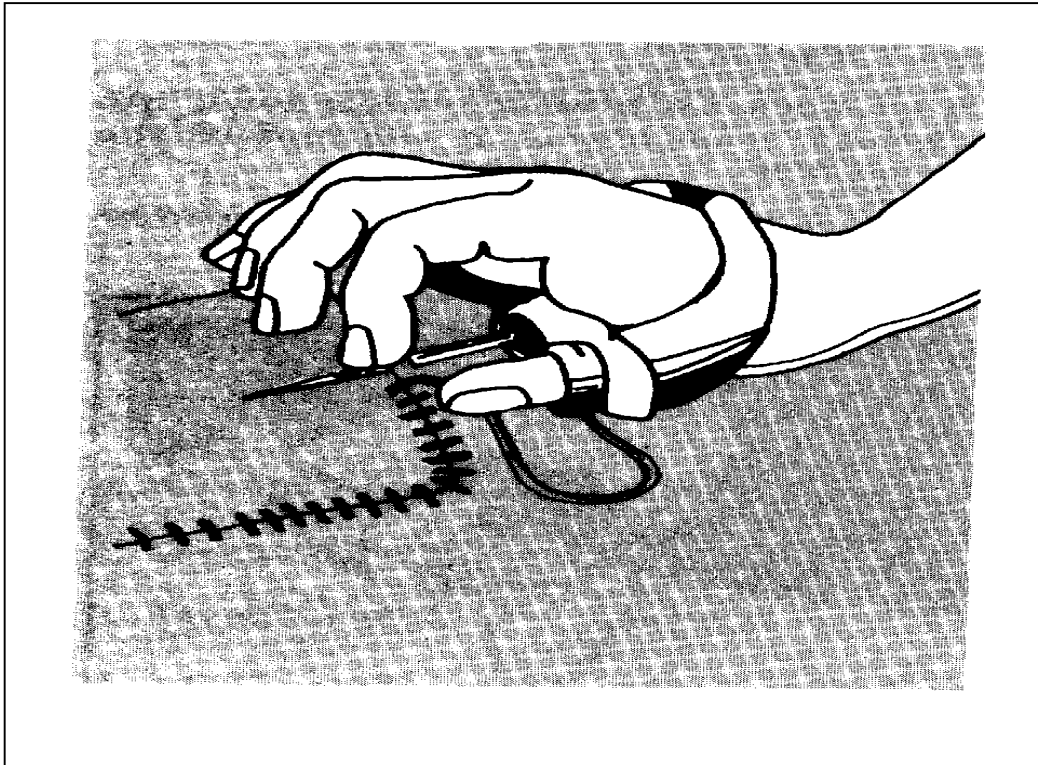

*Figure 7-8. Backstitch on canvas*
b. **Backstitch.** The backstitch (Figure 7-8) is used on canvas to close an open seam and to tack the beginning and the end of a row of hand stitches. To make a row of backstitches--
(1) Push the sailmaker's needle through the canvas or webbing, and pull the thread through to the knot.
(2) Tack the beginning of the row by tacking two small stitches, one on top of the other.
- (3) Push the needle up through the canvas or webbing one stitch length from the first two stitches.
- (4) Take one stitch back, pushing the needle down into the canvas or webbing at the end of the first two stitches.
- (5) Push the needle up through the canvas or webbing one stitch length in front of the previous stitch.
- (6) Stitch back, pushing the needle down into the canvas or webbing at the end of the previous stitch.
- (7) Continue to stitch to the end of the row as in 5 and 6 above.
- (8) Tack the end of the row by taking two stitches, one on top of the other.
- (9) Make a knot in the thread close to the canvas, and cut off the remaining thread.